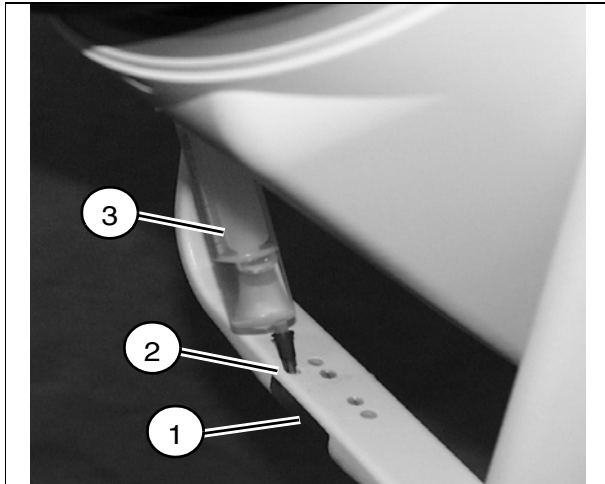

Fig. 12
- Check whether the isocenter phantom (1/Fig. 12) is filled with water; if not, remove screw (2/Fig. 12) and fill in water with a syringe (3/Fig. 12). There may not be any air bubbles. Turn in the screw again.